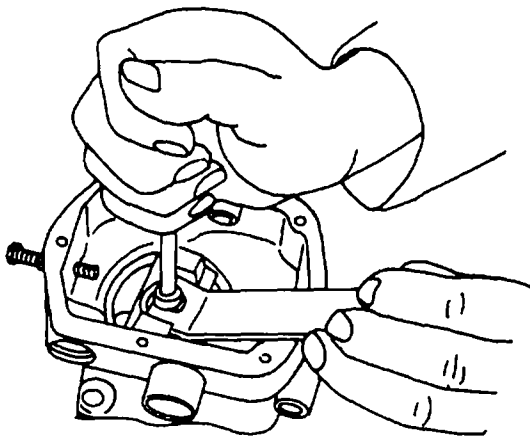

Figure 11-7. Governor Pilot Valve
(19) Hold spring seat (56, figure 11-5) with short end of pilot valve wrench and using a 5/16 inch socket wrench, remove pilot valve plunger locknut (57) (refer to figure 11-7).